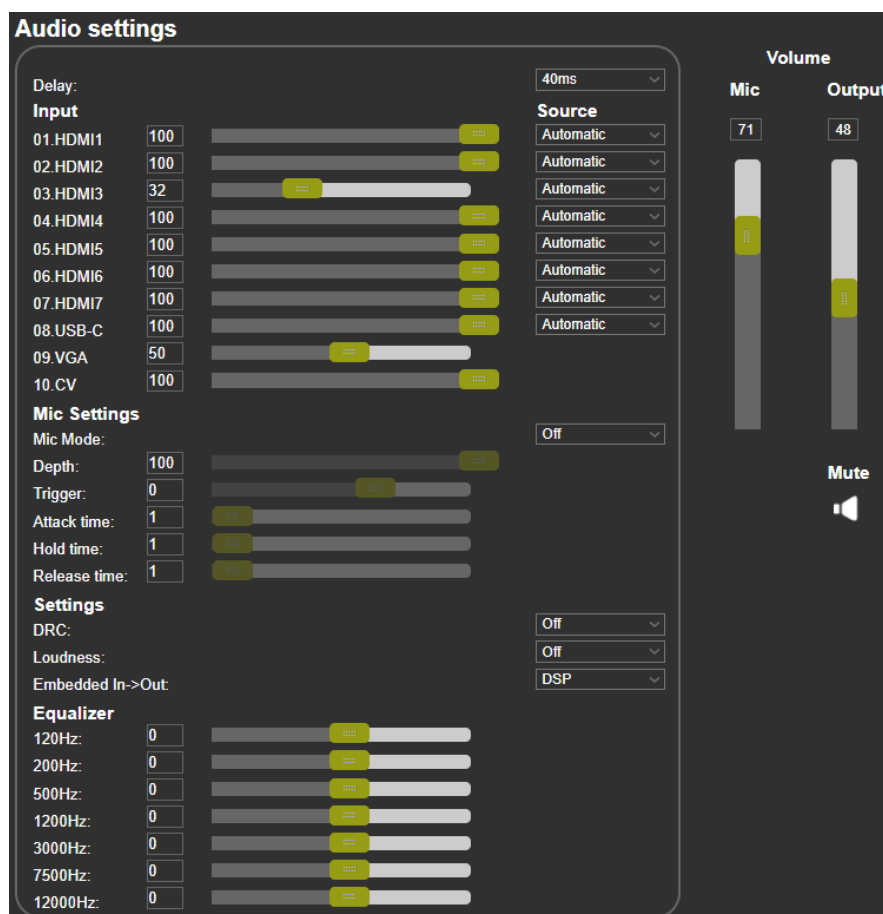

Figure 25: Audio Settings Page
1. In the Navigation pane, click **Audio Settings**. The Audio Settings page appears (see Figure 25).